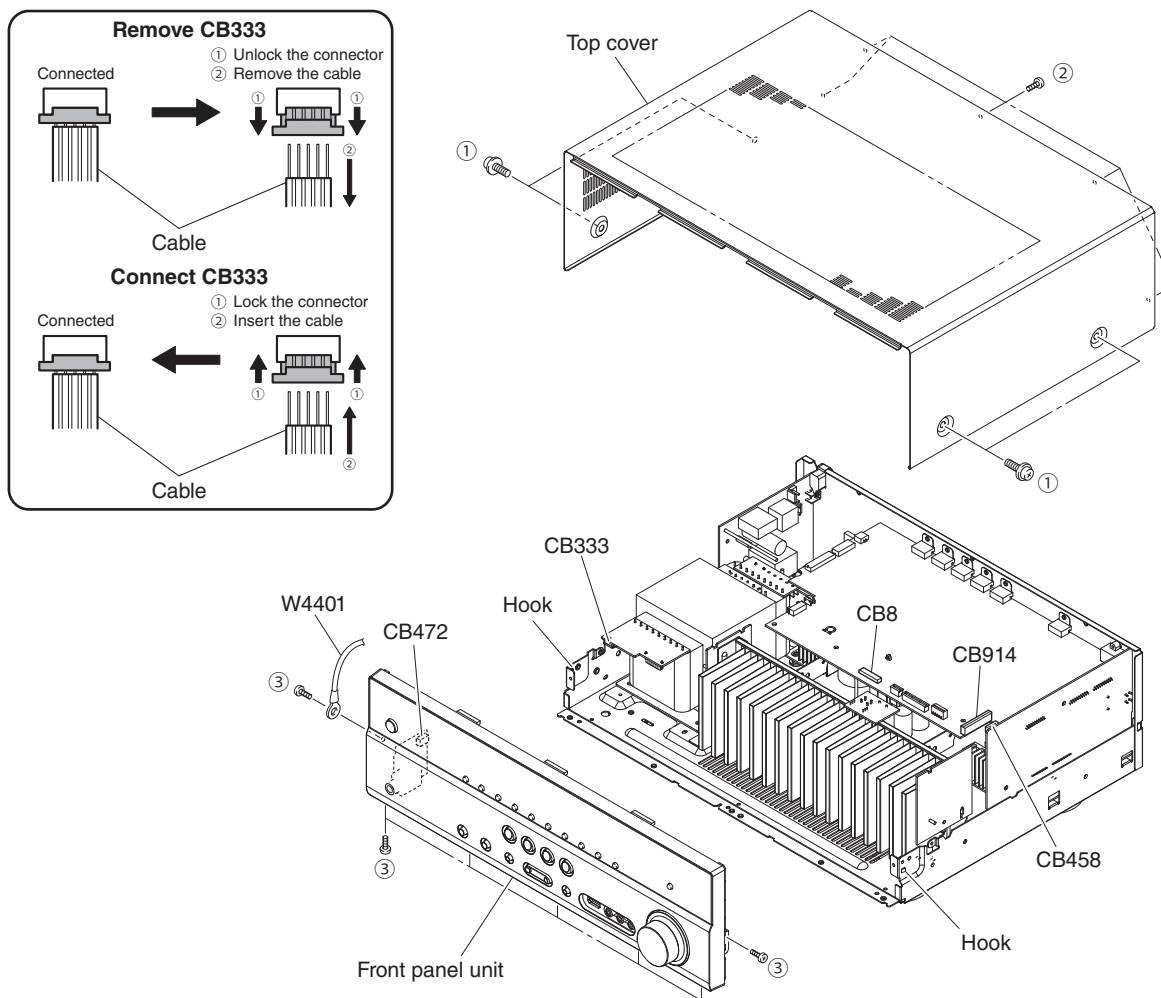

Fig. 1
- Remove 4 screws (①) and 5 screws (②). (Fig. 1)
- Remove 7 screws (③), and remove W4401. (Fig. 1)
- Remove CB8, CB458, CB472 and CB914. (Fig. 1)
- Unlock and remove CB333. (Fig. 1)
- Release 2 hooks, and remove the front panel unit. (Fig. 1)